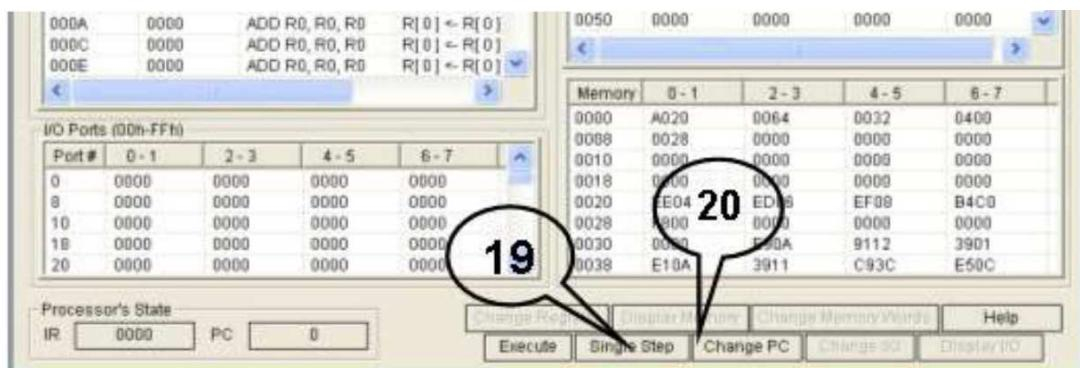

Figure 8
- This will open the simulation window with the executable program loaded in it as shown in Figure 8. The details of the different panes in